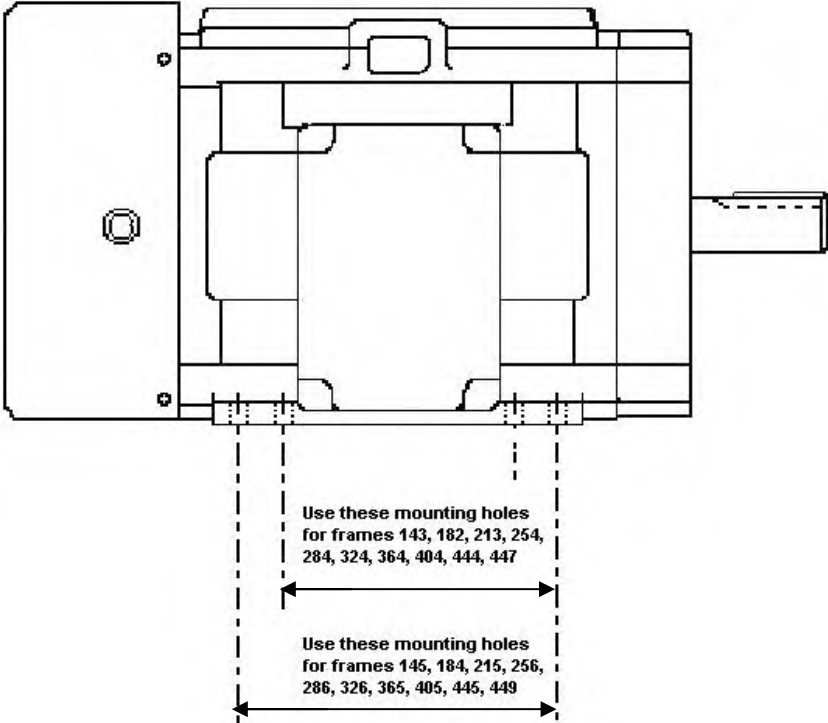

Figure 2A: Mounting
2. On motors with dual mounting holes use the holes indicated per **Figure 2A** and **2B**.